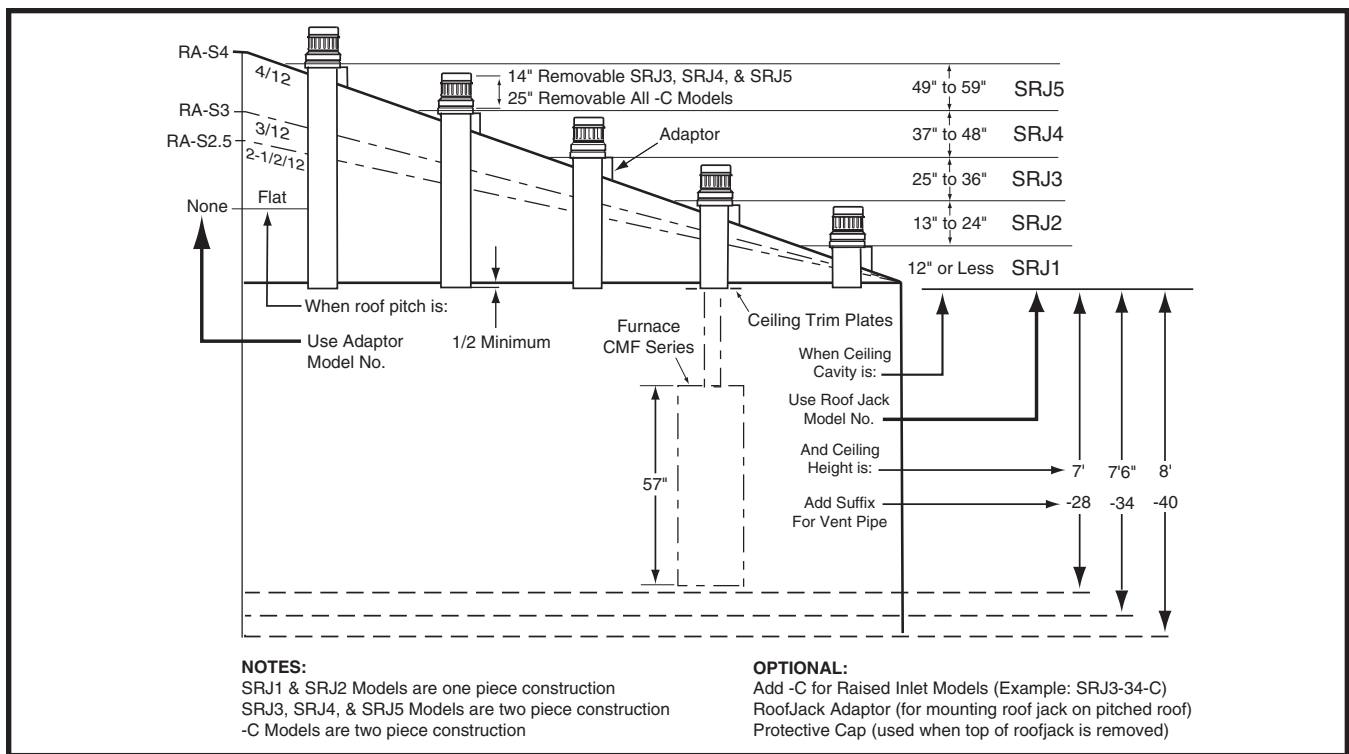

Figure 9. Selection of Roof Jack & Accessories Chart
Required ceiling and roof cut-out openings must be accurately located to prevent hazardous misalignment of the furnace and roof jack. Figure 8 displays a typical installation for manufactured housing applications. Refer to Figure 9 (page 14) to determine appropriate SRJ roof jack and accessories required for your installation. Install only SRJ series roof jack as specified on the furnace label. **NOTE:** A roof jack adaptor is required for sloped roofs.
- The roof jack and vent pipe as determined from the chart in Figure 9 must be applied.